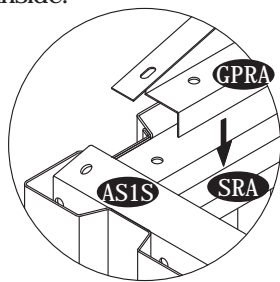
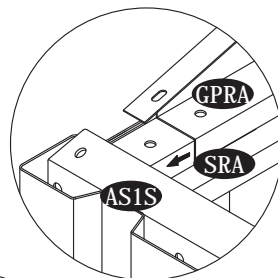

Fig.1
Fig.2
1. Place the Gable panel (GPRA) on top of the sliding channel (SRA). See fig.1. Push the Gable panel inside the top angle side (AS1S). See fig.2. Align the holes with sliding channel and secure with (S1) screws from inside.